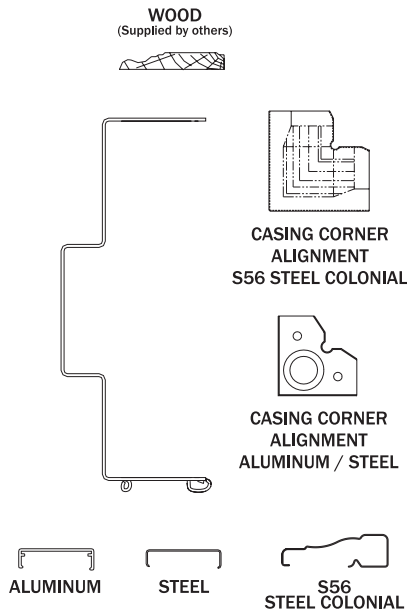

Fig. 11
**Steel, Aluminum or S56 Steel Colonial Casing Applications** proceed with Steps 6, 7, and 8 below (Fig. 11, Pg 3).